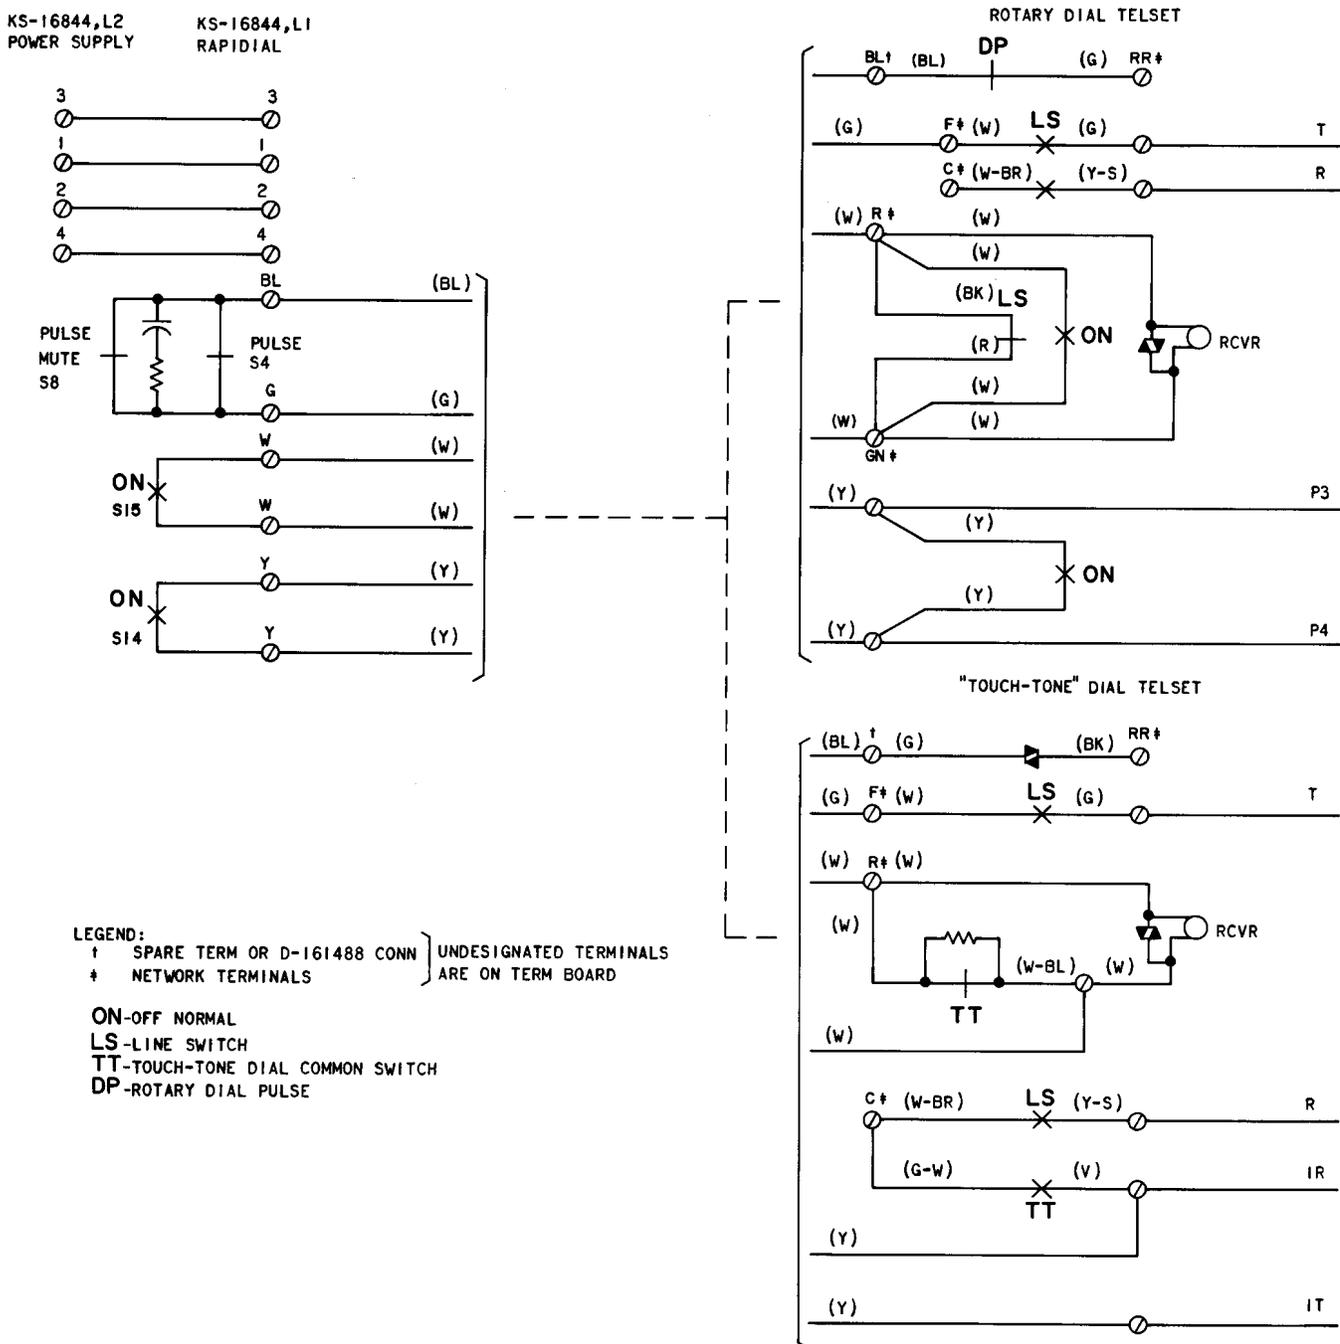

Fig. 13—Typical Connection To Rotary and TOUCH-TONE Dial Equipped Telephone Sets
- 5.03** Fig. 13 shows typical connections to rotary and TOUCH-TONE telephone sets.